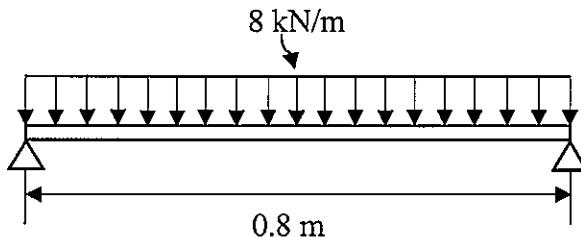

Figure 3(c) / Rajah 3(c)
- CLO2 c) A 0.8 m long T shape beam supports a uniformly distributed load of 8 kN/m as illustrated in figure 3(c). Given the Young's Modulus,  $E = 80 \text{ GPa}$  and the second moment of area,  $I = 1.51 \times 10^{-6} \text{ m}^4$ . Determine: